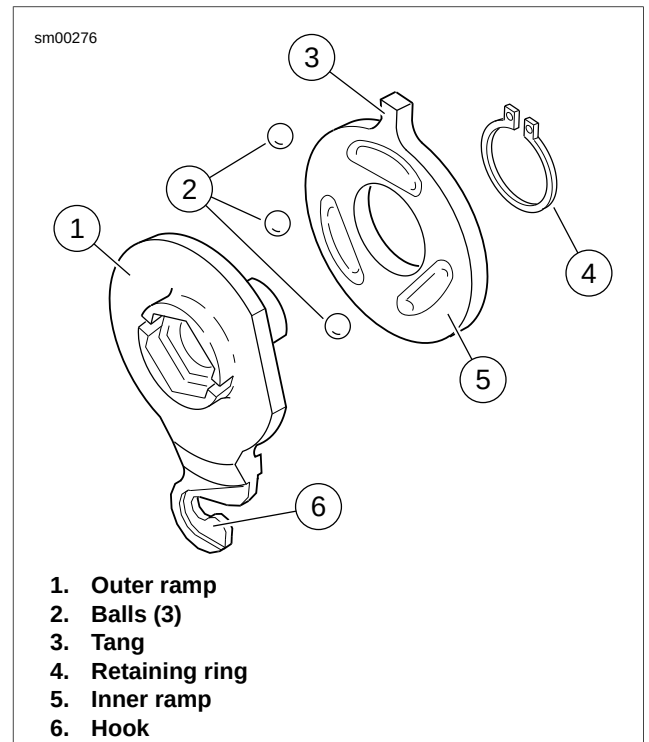
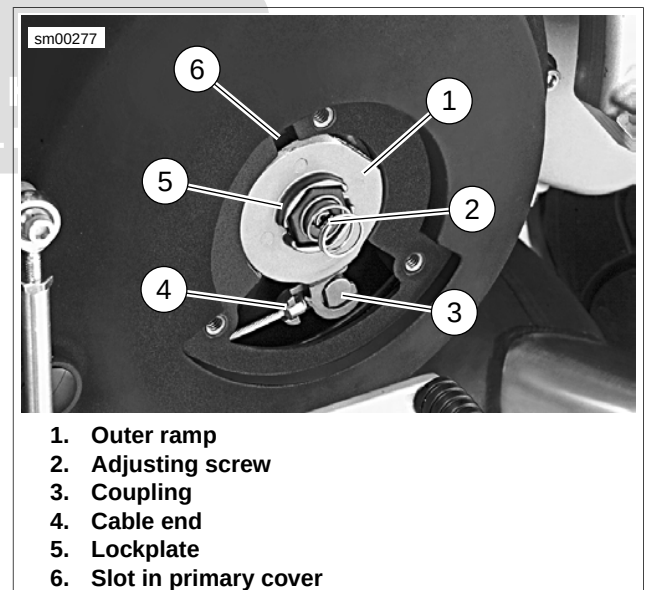

Figure 6-10. Inner and Outer Ramp
Figure 6-11. Nut and Outer Ramp
1. See Figure 6-10. Assemble inner and outer ramps.
- a. Apply multi-purpose grease to balls (2) and ramps (1, 5).
- b. Insert balls in sockets of outer ramp (1).
- c. Install inner ramp on hub of outer ramp with tang (3) rotated 180° from hook (6) of outer ramp.
2. See Figure 6-11. Install ramp assembly.
- a. Fit coupling (3) over cable end (4) with rounded side inboard, the ramp connector button outboard.
- a. Thread nut on adjusting screw (2) until slot of screw is accessible with a screwdriver.
- e. Install clutch adjusting lockplate (5) and spring.